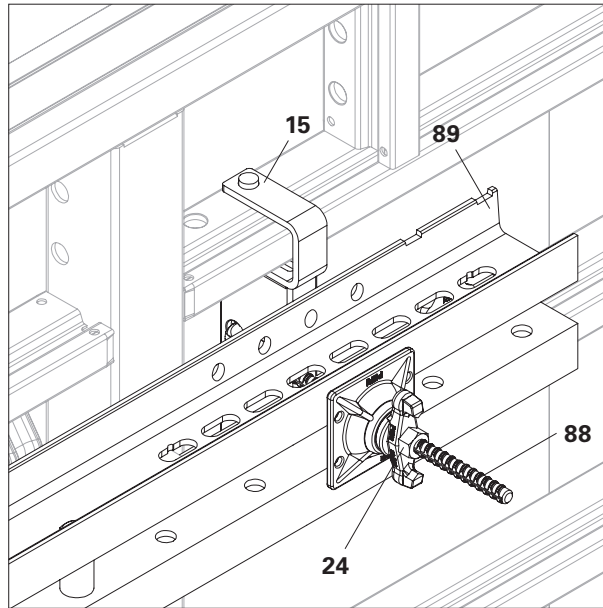
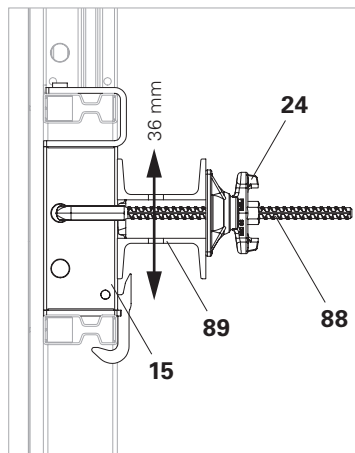

Fig. D3.03
Fig. D3.03a
- Attach the Steel Waler SRU U120 (89) to the horizontal Panel MX-2 (5).
- This creates a frictional connection between the Steel Waler SRU U120 (89) and the rectangular tube of the Adaptor MXE 330 (15).
- The Steel Waler SRU U120 (89) can be levelled or displaced along the rectangular profile of the Adaptor MXE 330 (15) by up to 36 mm (Fig. D3.03a).
1. Place the full surface of the Steel Waler SRU U120 (89) on the Adaptor MXE 330 (15).
2. Insert Hook Tie Head DW15 ga (88) through Steel Waler SRU U120 (89) and hook into Adaptor MXE 330 (15).
3. Attach Hook Tie Head DW15 ga (88) with Wingnut Pivot Plate DW15 ga (24).
- (Fig. D3.03 + Fig. D3.03a)